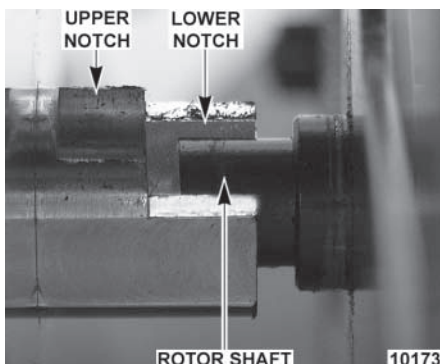

Fig. 7
STEP 5: Nudge rotor toward the drive arm. Non-drive end of rotor shaft falls into the lower portion of support bearing hub (Fig. 7). Drive end of rotor shaft is driven into center hole of drive arm.